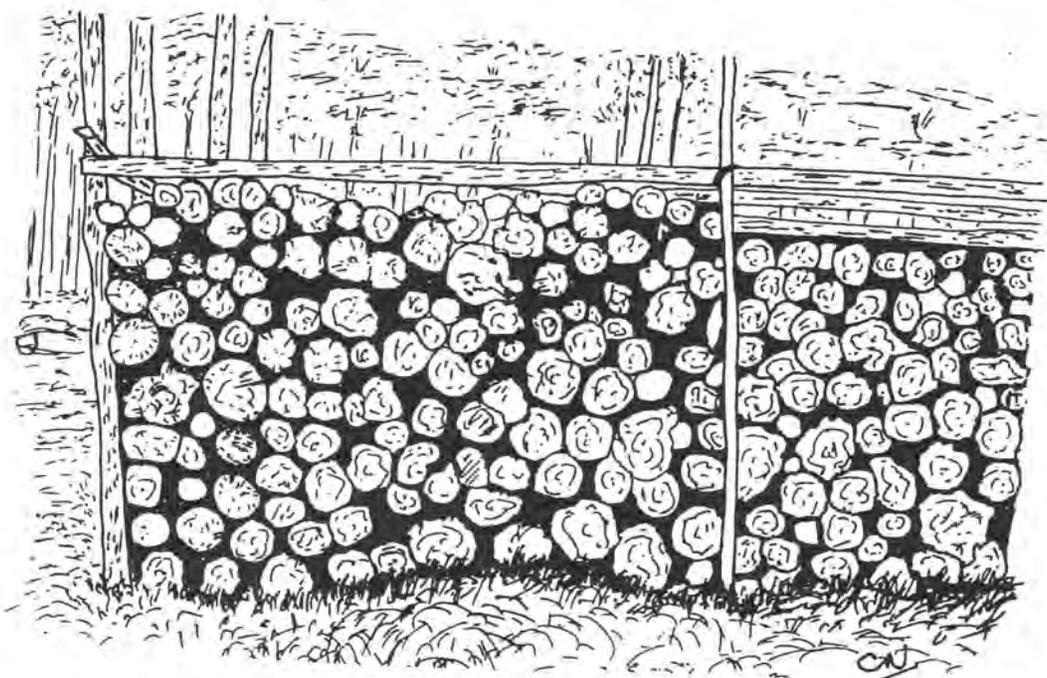

Figure 2.1: A standard stack of 3m^3 (1m high x 1.5m length of wood x 2m breadth of stack) to allow free air circulation
- Stack the fuelwood to dry for about 6 weeks in the open where there is ample sunlight and wind to facilitate rapid drying to a moisture content of less than 20% before charcoaling (Figure 2.1). Stacking assists in estimating the volume of wood to be carbonised .